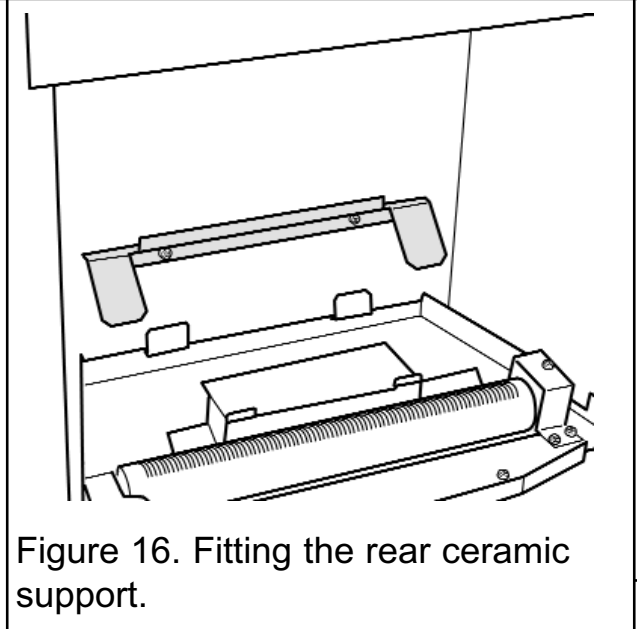

Figure 16. Fitting the rear ceramic support.
7. This appliance is supplied with a rear ceramic support bracket. Fit this using two screws supplied (See figure 16)